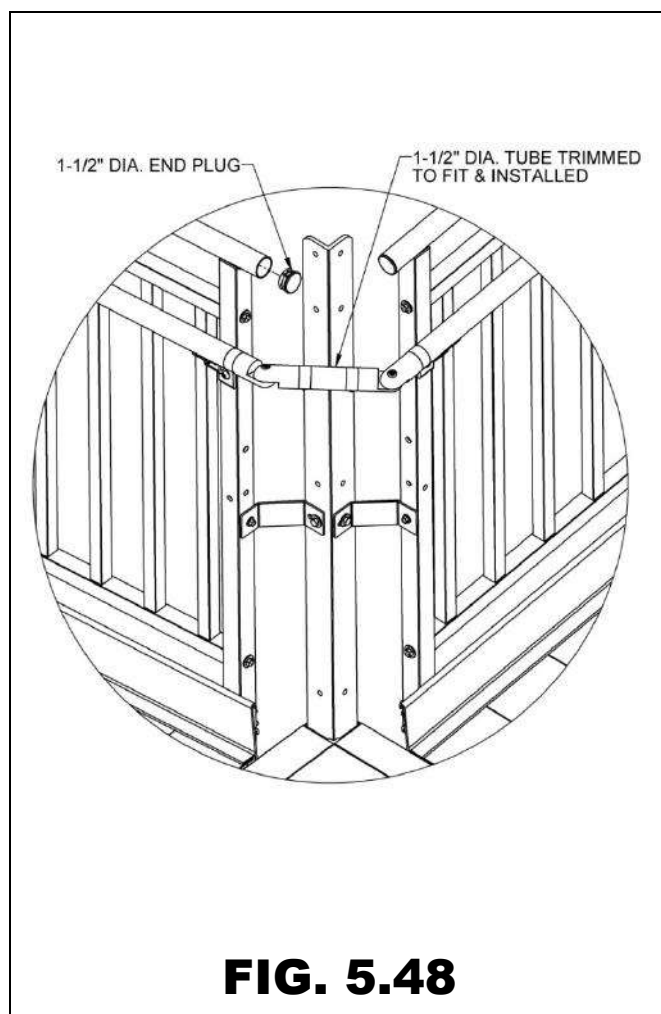

FIG. 5.48
- 5.10.7. Install trimmed 1-1/2" diameter tube in gap between the 2-15/16" ring joiners. Disassemble and reassemble ring joiners and adjustable elbows as needed to complete the installation (FIG. 5.48).